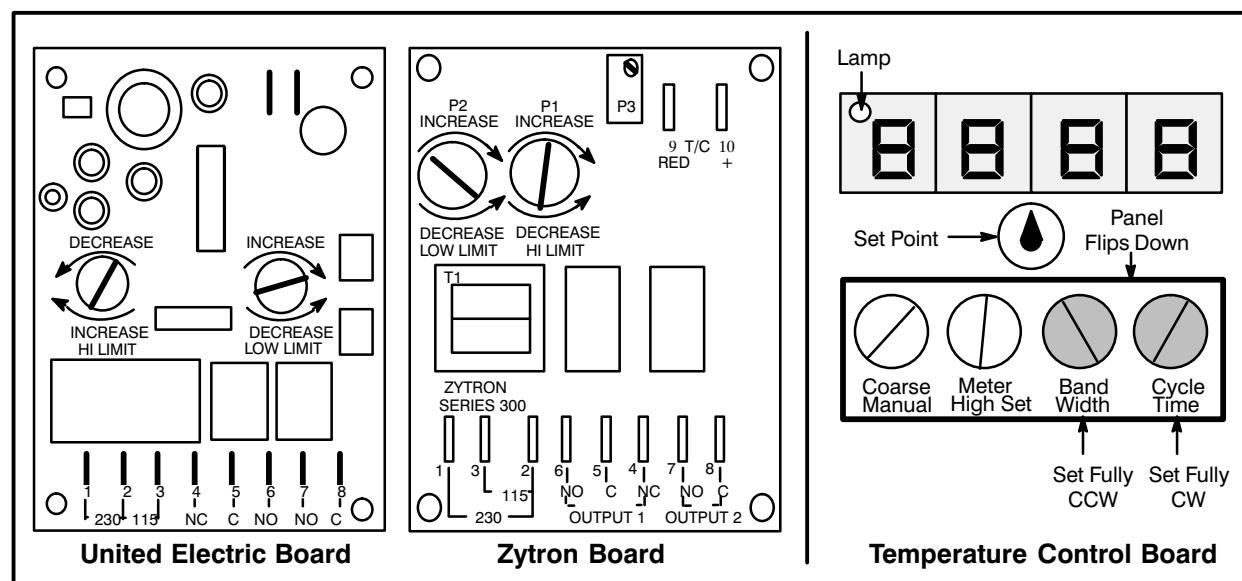

FIGURE 7
4. To adjust the temperature, turn the low-limit potentiometer. A clockwise rotation increases the setting, counter-clockwise decreases it. See FIGURE 7.
2. Adjust the set point for 500°F (260°C). Monitor the Indicator Lamp. See FIGURE 7. When the lamp goes out, compare the pyrometer with the temperature of the display. If the display differs by  $\pm 5^{\circ}\text{F}$  ( $3^{\circ}\text{C}$ ), open the access panel on the temperature controller and continue with STEPS 3 and 4.
2. Set the temperature to 620°F (327°C). When the display reads 600°F (316°C), the burner blower motor should shut off. If the temperature rises above 600°F (316°C), adjust the hi-limit pot (See FIGURE 7) so the burner shuts off at 600°F (316°C). A clockwise rotation of the high-limit pot increases the temperature, counter-clockwise decreases it.